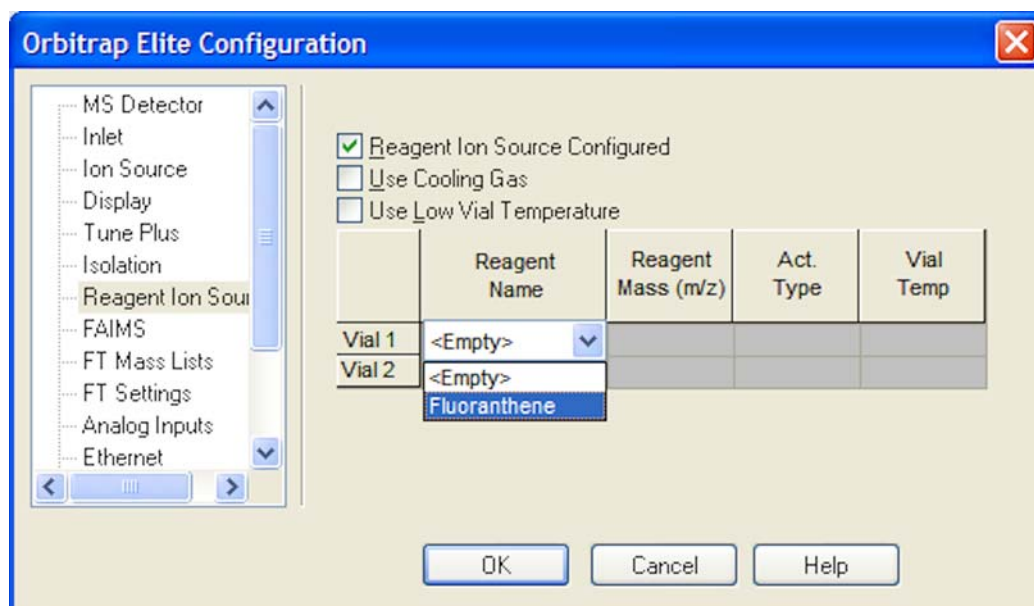

Figure 7-7. Enabling the reagent ion source
3. Click **Reagent Ion Source** in the left hand section of the Orbitrap Elite Configuration window. Use the Reagent Ion Source page of the Configuration dialog box to configure the reagent ion source and to activate the cooling gas. See Figure 7-7.
4. Select the Reagent Ion Source Configured check box as shown in Figure 7-7.